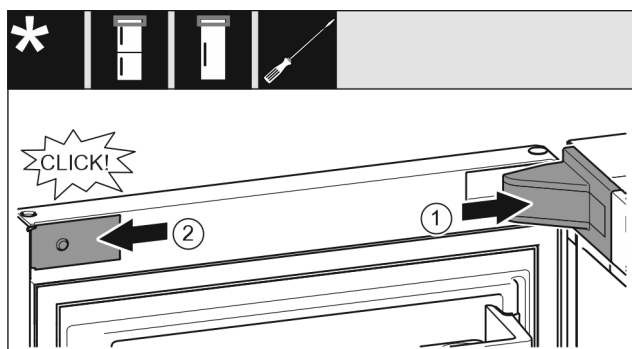

Fig. 22
- Position the bearing bracket and latch it in place. If necessary push it apart carefully. *Fig. 22 (1)*
- Position the panel on the side and latch into place. *Fig. 22 (2)*